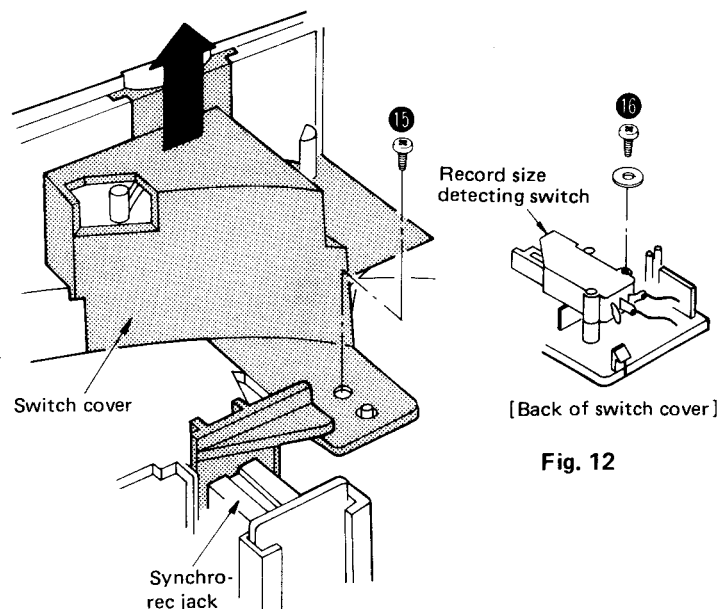

Fig. 12
3. Pull the switch cover out of the cabinet, then turn over the switch cover and remove the switch setscrew (Fig. 12 : 16).